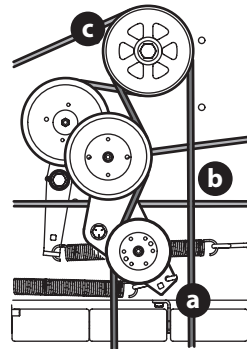

Figure 55
3. Using a 1/2" drive in the idler pulley bracket (a), turn the wrench towards the right of the mower and slide the PTO belt (b) off the PTO pulley (c) (Figure 55).